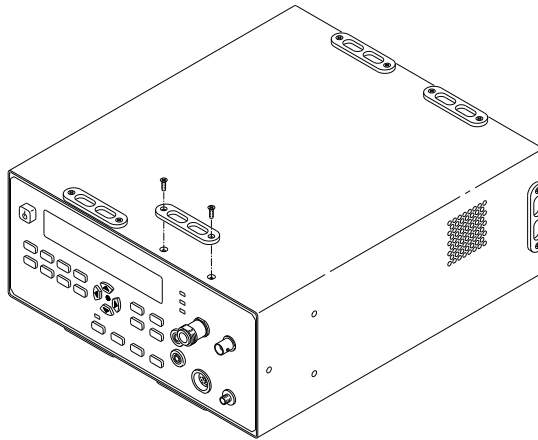

Figure 3-3 Removing the Bumper Retainers
- 2 Use a #1 Phillips screwdriver to remove the two 4-40 x 7/16-inch flathead machine screws that attach each bumper retainer to the chassis (see **Figure 3-3**).
- 4 Remove the four bumper retainers from the front end of the instrument (see Figure 3-3 and "Removing the Bumper Retainers" on page 95).